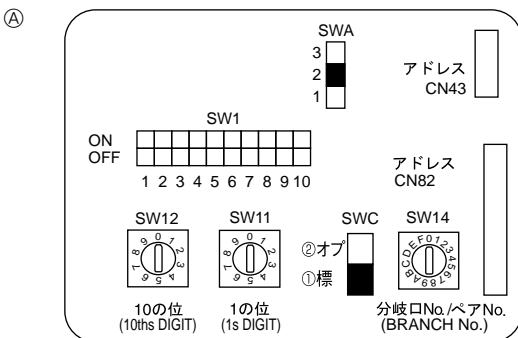

Fig. 6-4
6.5. Setting addresses (Fig. 6-4)
6.6. Switch setting for different ceiling heights (Fig.6-4)
6.7. Sensing room temperature with the built-in sensor in a remote controller (Fig.6-4)